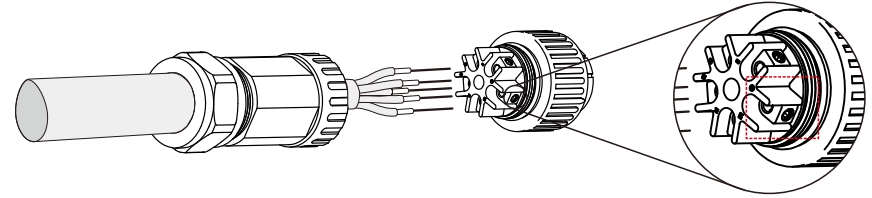

Figure 5.22 Connected cable
A) Stripped the insulation sleeve of cable for 70mm, so that bared copper-core connector reaches for 9mm. Cable through nut and sleeve of socket element, insert corresponding terminals and tighten with allen wrench (see figure 5.22). Torque is 1.8-2.0Nm.
Tighten cable with 3.0 mm allen wrench(focus in dotted box, see figure 5.22). Allen screw is easy to drop off, don't screw out completely.